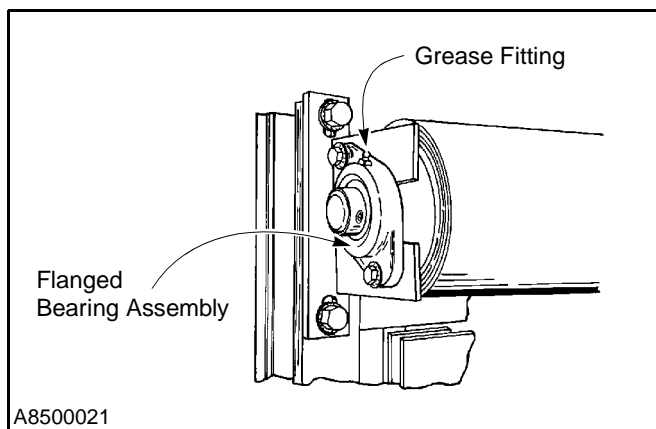

Figure 63
1. **Flanged Bearings:** Each end of the fabric roll shaft is supported by a flanged bearing assembly. At the grease fitting on each bearing, lubricate the bearings using a lithium-based grease conforming to NLGI, Grade 2 Standard. Use a medium-viscosity, low-torque grease with an approved operating temperature range of -30° to $+200^{\circ}\text{F}$. (See Figure 63.)